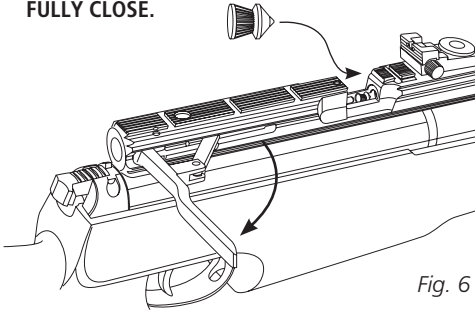
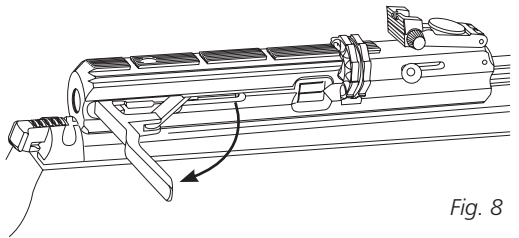
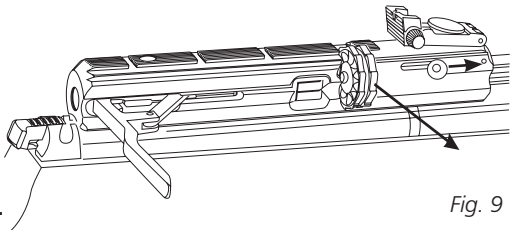

Fig. 6
Fig. 8
Fig. 9
1. Pull the cocking lever until it locks and put one pellet into the pellet loading slot as shown in Fig. 6.
(Fig. 6, Fig. 8 & Fig. 9).